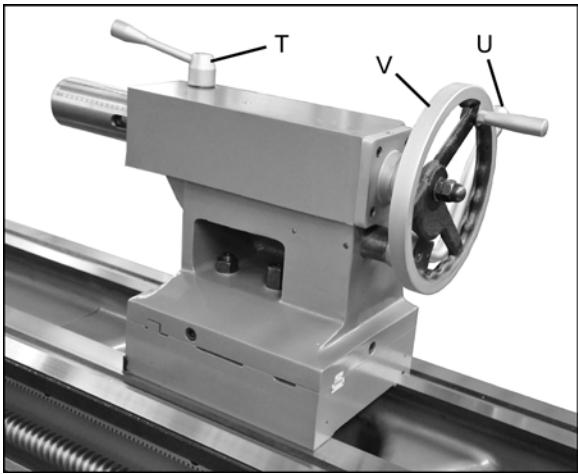

Figure 26 – Tailstock controls
16. **Tailstock Quill Clamping Lever** (T, Figure 26): Rotate clockwise to lock the sleeve. Rotate counterclockwise to unlock.
17. **Tailstock Clamping Lever** (U, Figure 26): Lift up to lock. Push down to unlock.
18. **Tailstock Quill Traverse Handwheel** (V, Figure 26): Rotate clockwise to advance the quill and counterclockwise to retract it. Fully retract it to eject a center or drill chuck.